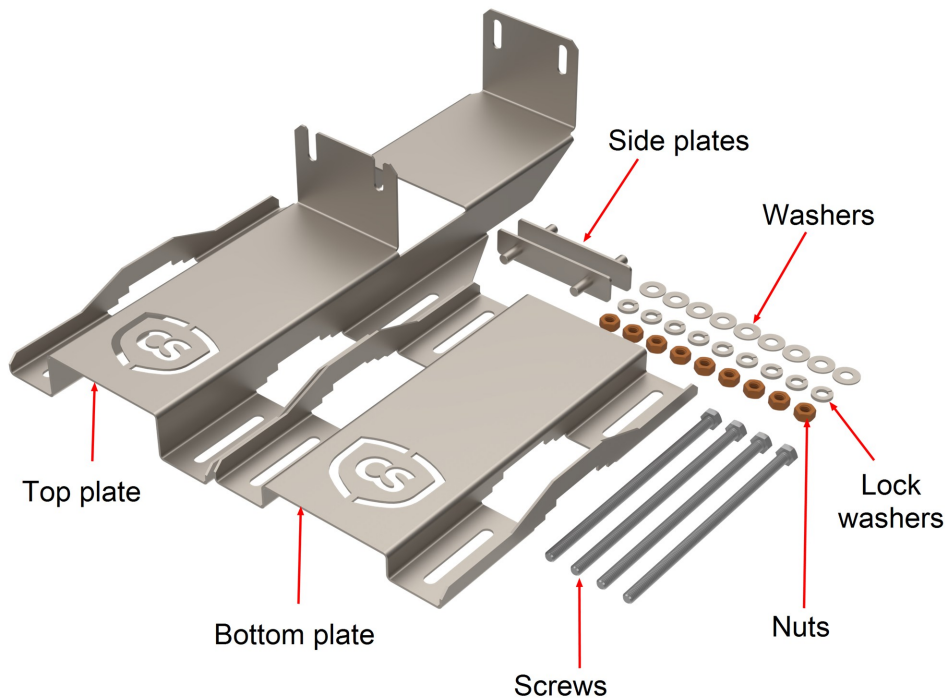
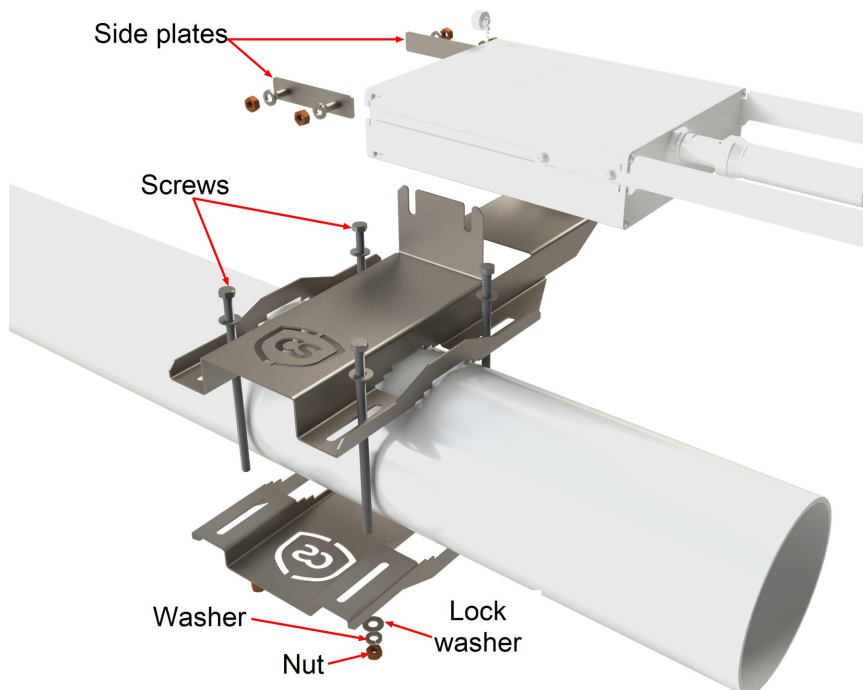

Figure 7-1. Tracker torque tube mounting bracket
*Figure 7-2. Exploded view of mounting bracket*
1. Secure the bracket to the tracker torque tube by using the four screws, four nuts, eight washers, and eight lock washers (see Figure 7-1 [p. 32] and Figure 7-2 [p. 33]).
2. Slide the side plates on the bracket (see Figure 7-2 [p. 33]).